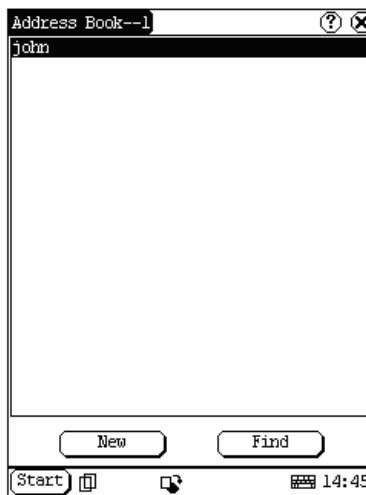

Figure 4-22
- 3) Click [New] button to open the Address New interface. (See Figure 4-22)